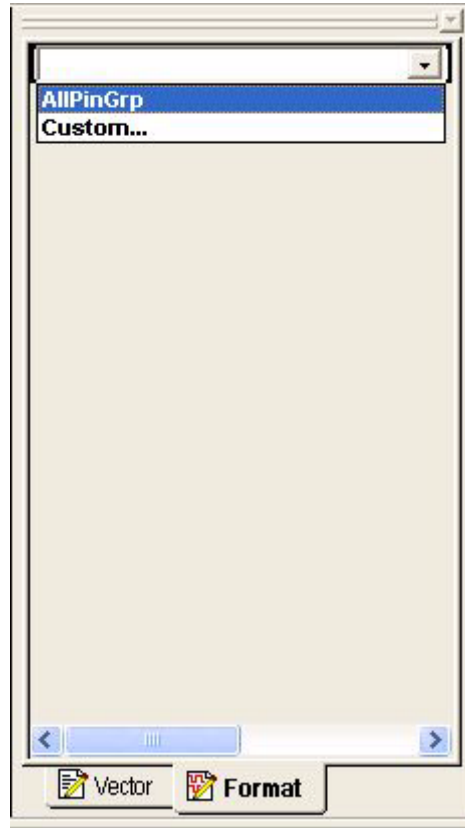

Figure 5-62. Edit Vector Pane Format Tab Drop-Down List Box
- 4 Selecting the <Select Pin Display> drop-down list box lists the available options (Figure 5-62).